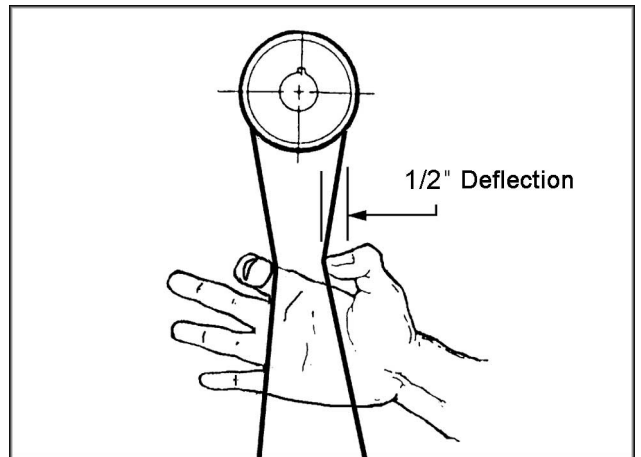

Fig. 8d
9. The v-belt is properly tensioned when finger pressure between the two pulleys causes approximately 1/2" deflection (fig. 8d).